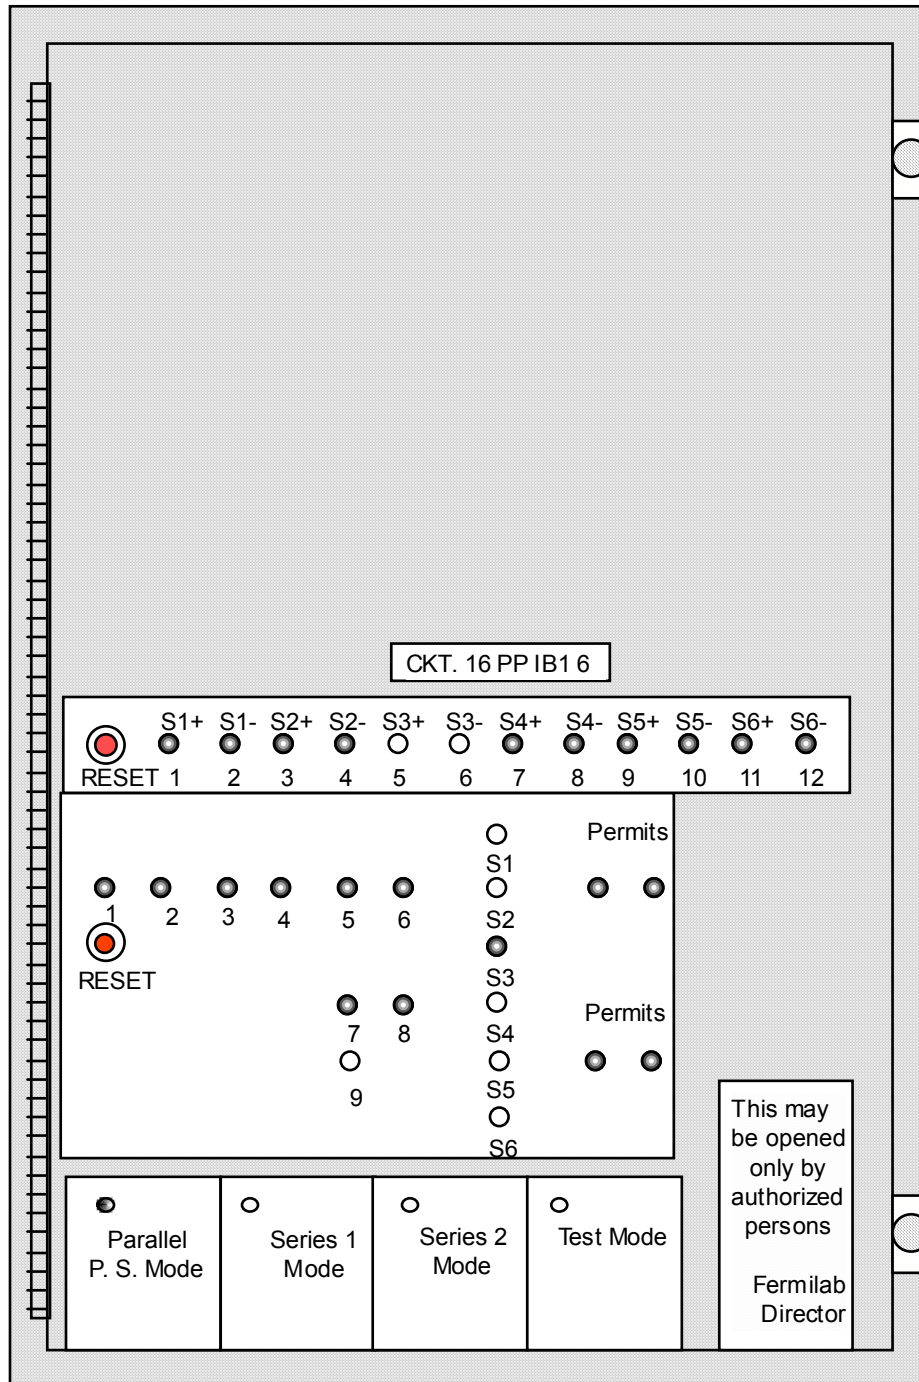

Fig. 1
- 4.1 **Reset the hardwire interlock box** located on the outside West wall of the control room as shown in Fig. 1. This drawing represents the box in a stand 3 enable position. Although some of these labels represent an obsolete system, their purpose is still functional.